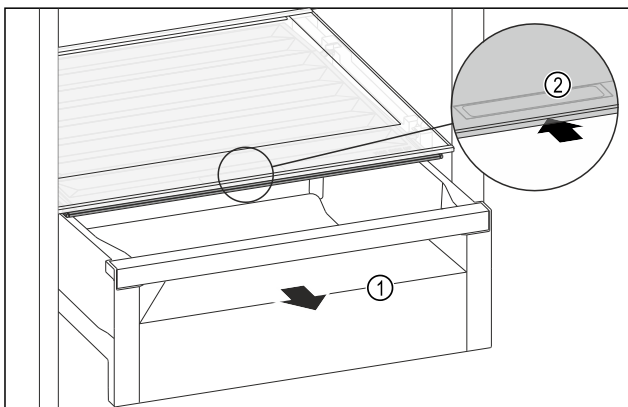

Fig. 176
- ▶ Pull out the drawer Fig. 176 (1).
- ▶ Grasp the recessed grip Fig. 176 (2) on the compartment lid and push the compartment lid backwards at the same time.